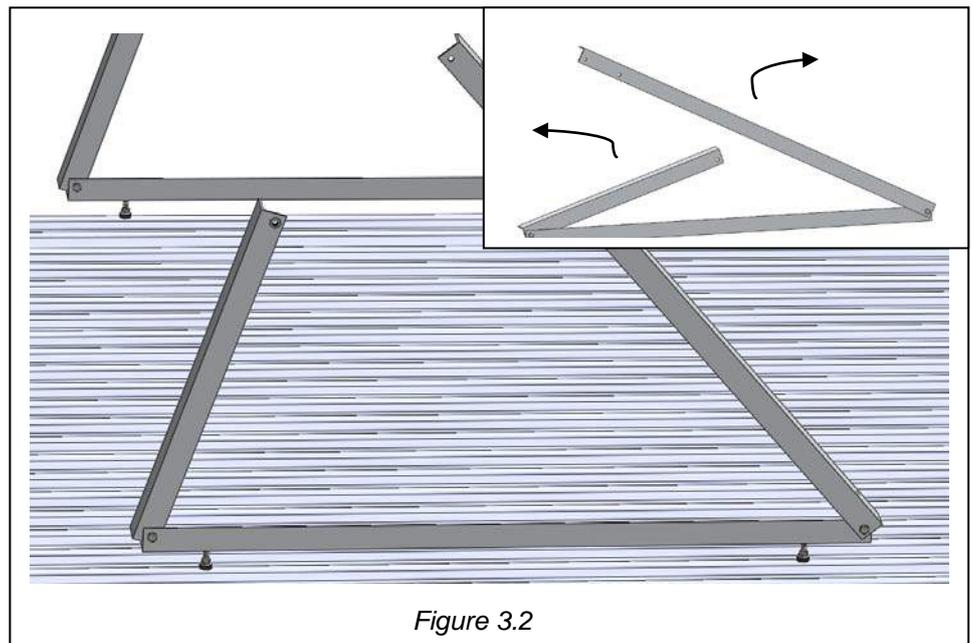

Figure 3.2
- Open the folded Triangle Bracket as *Figure 3.2* shown. Connect Bottom Support on the foundation bolt.